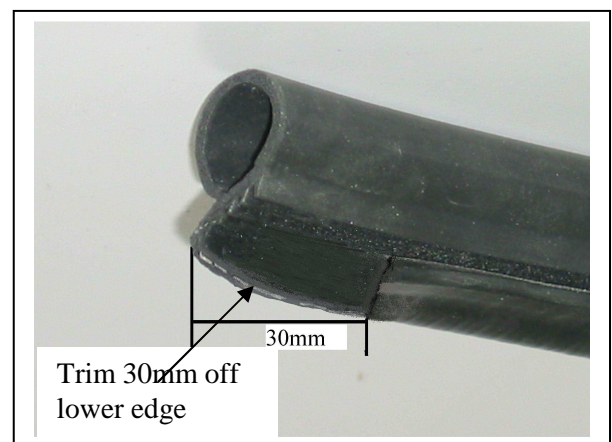

Figure 2
7. Attach infill trim (supplied) to top sides of ECB protection bar. **NOTE:** Trim 30mm off lower edge so trim will sit over end of protection bar. **See figures 2 and 3. Trim excess off end to follow protection bar. See figure 4. NOTE:** Seal any exposed edges of trim with silicone or similar to avoid corrosion of inner steel.